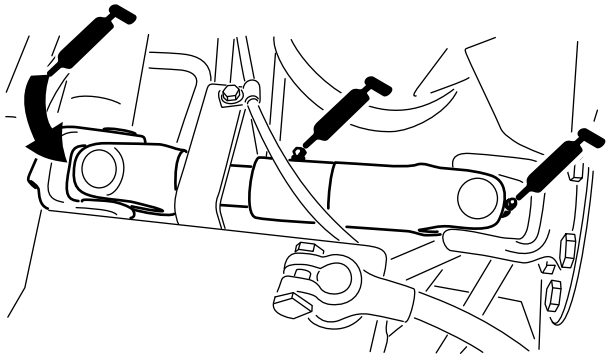

Figure 43
- Pump drive shaft U-joint (3) (Figure 43)